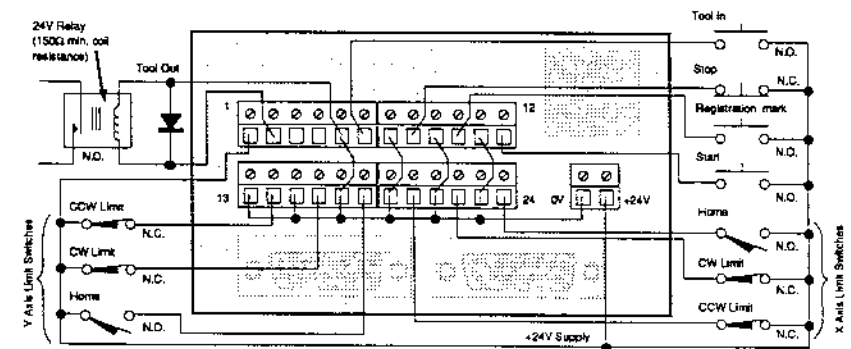

Figure 3-2. I/O Connections to the MC20
Table 3-1 identifies the functions of each I/O connector pin (24 pins total). Figure 3-2 illustrates the I/O connections to the MC20.
You must install normally-closed switches returned to +24V to ensure that motion is stopped if the limit is *tripped* (opened) or if the limit connection is broken. Refer to Figure 3-2 for limit input connections. When the load trips the limit switch, the axis decelerates to a stop at the limit deceleration rate (see *Configuring the MC20* in Chapter 4). **These limit inputs must be connected to +24V if limit switches are not required (see *Disable The Limit & Stop Inputs* in Chapter 2).**
**Home Switch Input** The home input is used to establish the home position (discussed in Chapter 4). Connect the home switch to the +24V supply via a normally-open switch (see Figure 3-2). The input operates when the switch is closed to +24V, drawing a current of 20mA. Switch debounce is incorporated.
**Remote Start Input** As an alternative to the keypad Start button, you can wire a remote normally-open start switch to a +24V supply (see Figure 3-2). You can initiate the current programmed move by closing the switch.
**Remote Stop Input** As an alternative to the keypad Stop button, you can wire a remote normally-closed stop switch to the +24V supply (see Figure 3-2). When the stop input switch is opened, the axis currently in motion decelerates to a stop at the programmed limit deceleration rate. **This input must be connected to +24V if a stop switch is not required (see *Disable The Limit & Stop Inputs* in Chapter 2).**
**Registration Mark Input** Aux In 2 is the Registration Mark input. It is optically isolated and requires +12 to +24V at pin 10 to operate, with pin 9 connected to 0V (see Figure 3-2). The registration pulse for registration moves is applied to this input. The input is activated by the positive edge of a +12 to +24V pulse.
**Tool Out and Tool In** The Tool Out output switches on (high) to start a remote tool operation at the end of a move (when the axis is not moving). Its output can drive 300mA from a +24V source to energize a relay (to start a tool cycle, for example). The collector and the emitter of the output transistor are connected via I/O connector pins 1 and 2, respectively (refer to Figure 3-2). The voltage and current ratings of the output devices are limited to 24V and 300mA, respectively.
The Tool In input is used as an optional trigger input to start the next move in a series of successive batch moves. It is an opto-isolated input requiring +12 to +24V to drive it. The Tool In input is connected via I/O connector pins 5 and 6 (refer to the input connections in Figure 3-2).
1. Make sure the limit switches are wired properly (see Figure 3-2).
If the shaft does not stop, press the Stop key (or open the remote stop switch) and check the CW and CCW input connections against Figure 3-2.